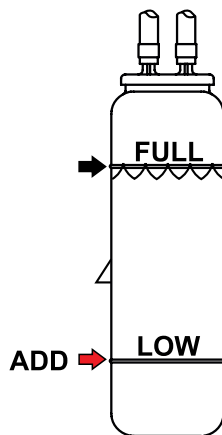

Figure 18. Coolant Recovery Tank
Day-to-day addition of coolant is done from the recovery tank Figure 18. When adding coolant to the radiator, **DO NOT** remove the radiator cap until the unit has completely cooled. See Table 7 for engine, radiator, and recovery tank coolant capacities. Make sure the coolant level in the recovery tank is always between the "FULL" and LOW markings.
1. Verify that the coolant level in the coolant recovery tank is between the **FULL** and **LOW** markings as shown in Figure 18.